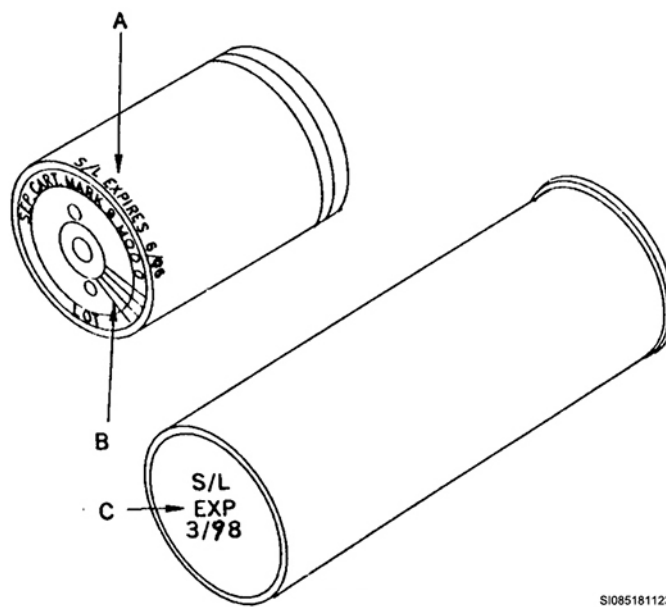

Figure 3-7. Service life and scribe markings.
- Placing a strip of pressure-sensitive, self-adhesive tape (no more than  $\frac{3}{8}$  inch wide and 0.002 inch thick) around the cartridge. This tape must not overlap and must be placed within  $\frac{3}{8}$  inch of the cartridge base. The service life must be written on the tape with indelible (permanent) ink (fig. 3-7,A).
- Scribing markings on the cartridge case with permanent ink, a metal scribe, or other sharp pointed instrument (fig. 3-7,B). Be especially careful in marking with a metal scribe; if you touch the cartridge electrode, you could cause an inadvertent ignition.
- Placing markings on the cartridge's closure disc with indelible ink (fig. 3-7,C). Be extremely careful here. Too much pressure can loosen (unseal) the closure disk.
The equipment impulse cartridges are installed into can have different types of firing pins. Some, like the MAU-12 bomb rack, have fixed (rigid) firing pins, and others, like the TER-9A, have spring-loaded firing pins. The type of firing pin directly affects the markings and service life of an impulse cartridge. Cartridges initially installed in spring-loaded firing pin breeches may be freely interchanged among other spring-loaded firing pin breeches. They may be used an unlimited number of times during their service life. They may also be installed into fixed firing pin breeches, but then they can't be reinstalled in any other type of breech with a firing pin of smaller diameter. It's exceptionally hard to distinguish between firing pin diameters unless they're checked before each cartridge is inserted. A *safe rule is never install an impulse cartridge in any other type of breech once it has been installed in a breech with a fixed firing pin.* Each time you remove an impulse cartridge (except MK 107 MOD 0/1 and CCU series) from a breech having a fixed-firing pin, place a radial mark on the base of the cartridge from the outer edge of the electrode insulation to the edge of the cartridge (fig. 3-7, B). This mark must be either scribed or marked with indelible ink. When an impulse cartridge has 10 marks (or its service life date passes), it's considered unserviceable and may no longer be used. If a cartridge's shelf life or service life expiration date is expired, it cannot be used.